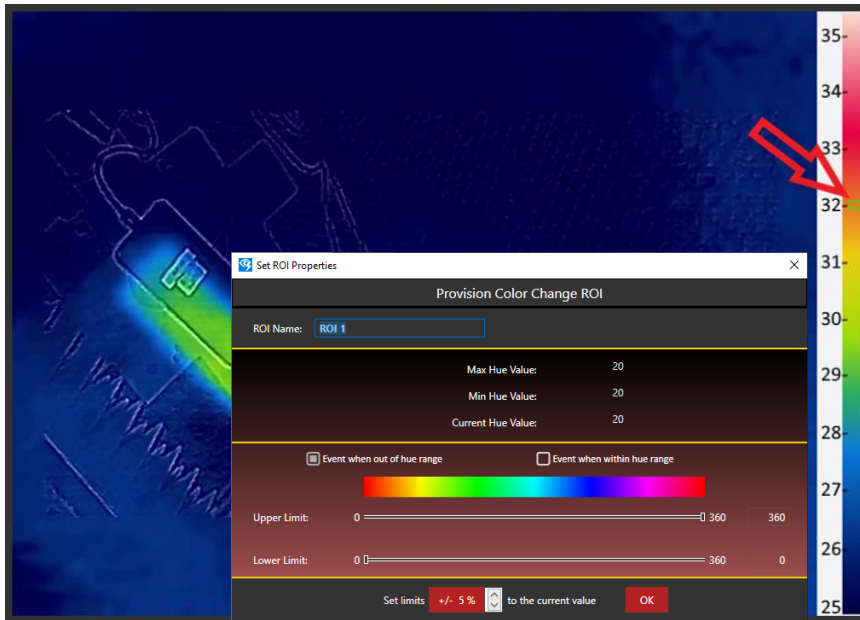

Figure 3-3: Position of the Color Change ROI to determine the hue value for the lower limit
- ▶ First you have to determine which color value corresponds to the limit temperature. To do this, place the ROI "Color Change" very narrow onto the color on the color scale that represents 32°C as shown in Figure 3-3.